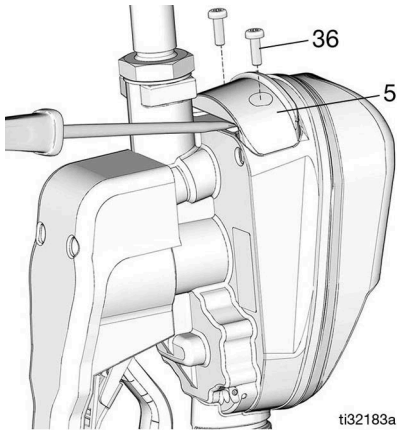

FIG. 38
1. Remove screws (36) from the battery compartment cover (5) (FIG. 38).
2. Use a small, flat screwdriver to gently pry the cover from the metered dispense valve housing on the bottom of the cover, near the extension attachment (FIG. 38).